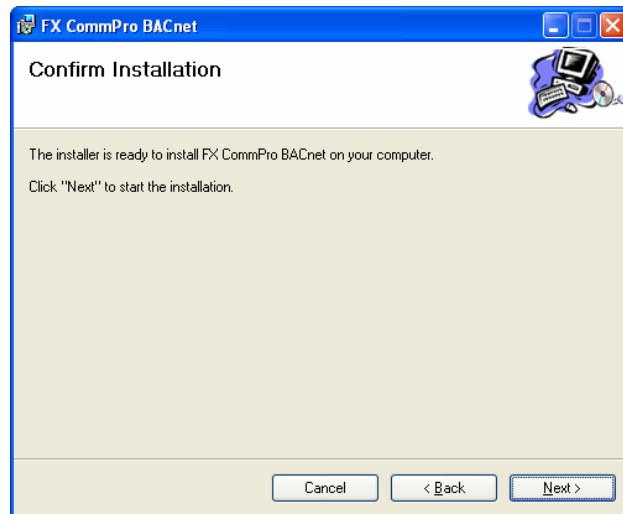

Figure 4: Confirm Installation Window
7. Click Next. The Confirm Installation window appears (Figure 4).